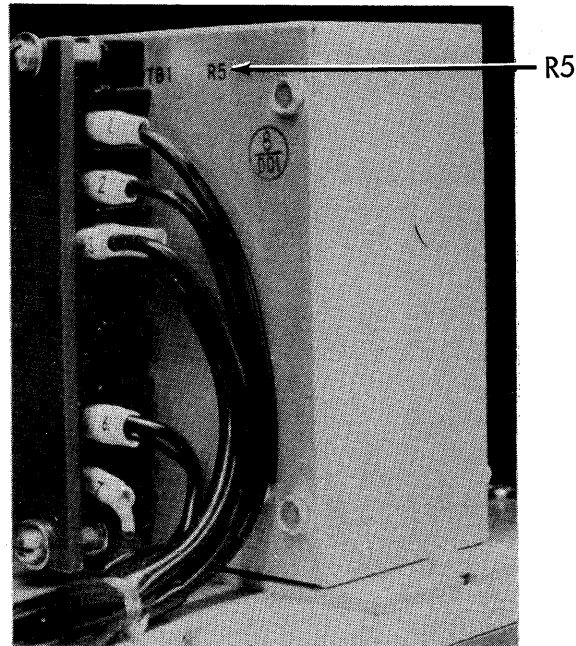

Figure 4-4. Focus and Astigmatism Correction Amplifier
- (g) Connect the probe to astigmatism input 1A3TB1-2 of the high-voltage divider. Set the FOCUS and ASTIGMATISM operator controls at the center of their travel. Adjust R5, figure 4-4, to obtain the best overall focus and astigmatism results. This adjustment varies, depending upon the overall dynamic characteristics of the crt, and will be between 0 and 65 volts ac pp.
- (b) Adjust R5, figure 4-4, and the front panel ASTIGMATISM controls for the most compatible dots (upper left and center).